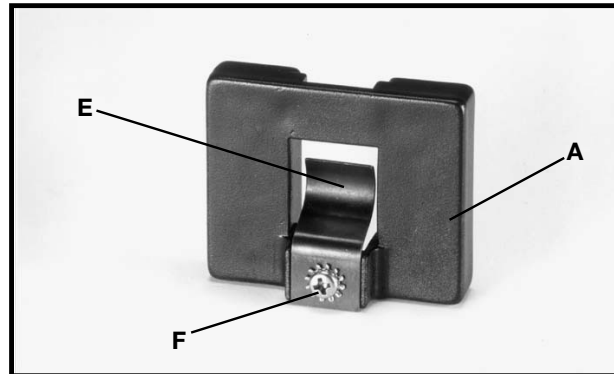
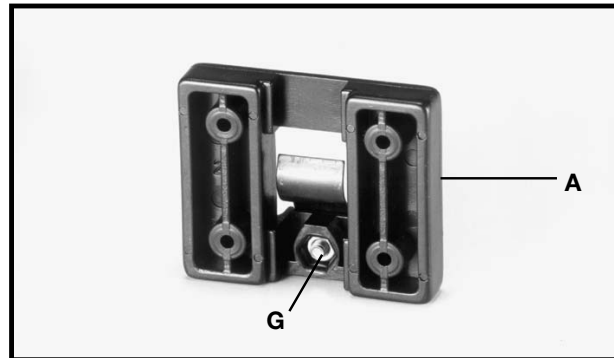

Fig. 4
Fig. 5
1. Assemble spring clip (E) Fig. 4, to the miter gage holder (A) as shown using a M4x.7x10mm pan head screw (F), 3/16 in. lockwasher and M4x.7 hex nut. **NOTE:** Hex nut (G) Fig. 5, will fit into the recess at the back of the miter gage holder (A) to keep spring clip (E) Fig. 4, secured to the miter gage holder.